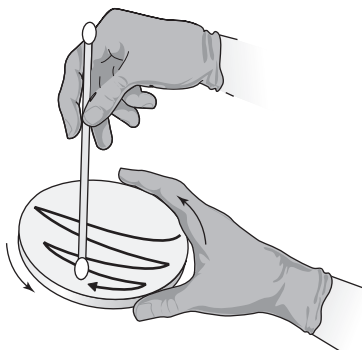

FIG. 10.3.
- Rotate the plate 60 to 90 degrees and repeat Step 2 (Fig. 10.3).